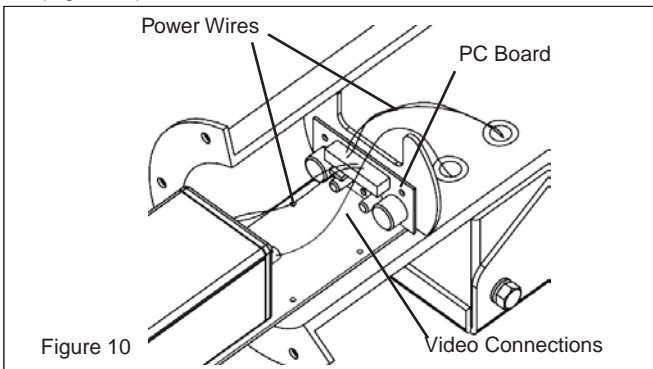

Figure 10
13. Connect the incoming power wires to the housing PC board. Connect the video cable directly to the camera, and run a set of power wires from the housing PC board to the camera (Figure 10).